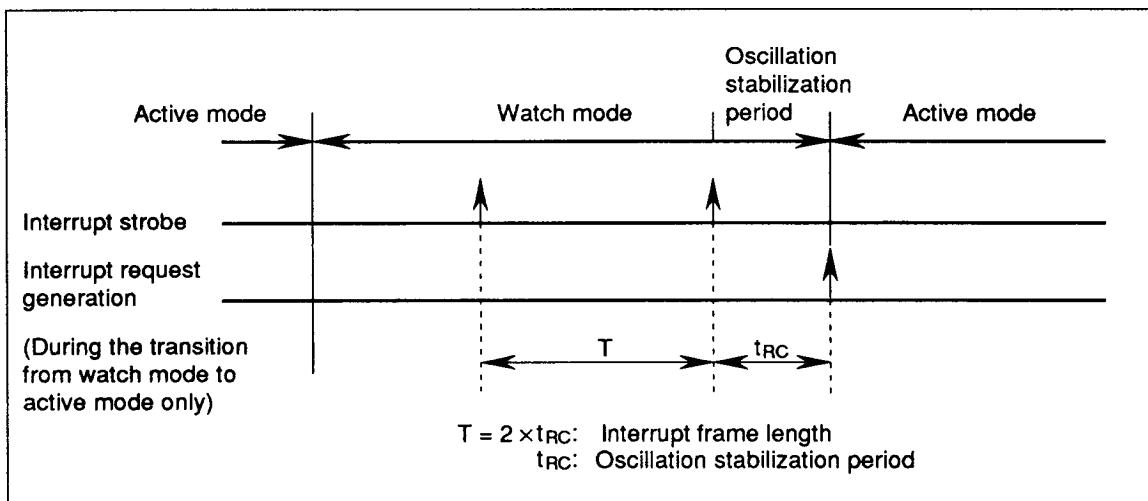

Figure 13 Interrupt Frame
Watch mode is terminated by a RESET input or a timer A/INT₀ interrupt request. For details of RESET input, refer to the Stop Mode section. When terminated by a timer A/INT₀ interrupt request, the MCU enters active mode if LSON is 0, or subactive mode if LSON is 1. Any interrupt request generated during the transition to active mode is delayed for half the interrupt frame period (t_{RC}), to give the oscillation time to stabilize, as shown in figure 13.
Interrupt Frame: In watch and subactive modes, timer A and \overline{INT}_0 interrupts are generated in synchronism with the interrupt frame. Three interrupt frame lengths (T) can be selected by settings of the miscellaneous register, as shown in figure 14. The time from an interrupt strobe to interrupt request generation is the oscillation stabilization period (t_{RC}), as shown in figure 13.